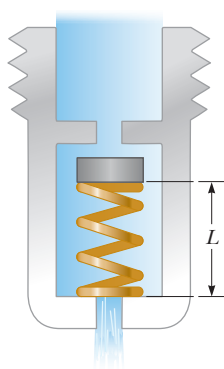

Figure P19.14
- Each year thousands of children are badly burned by hot tap water. Figure P19.14 (page 584) shows a cross-sectional view of an antiscalding faucet attachment designed to prevent such accidents. Within the device, a spring made of material with a high coefficient of thermal expansion controls a movable plunger. When the